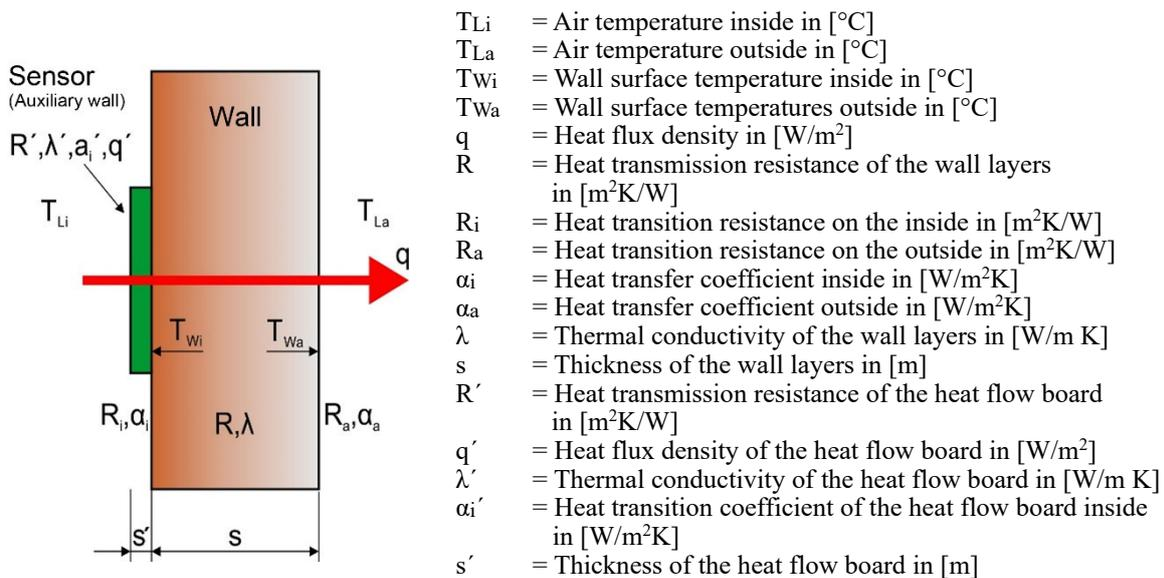

Fig. 3.3.1 Wall with attached heat flow plate
5. As little influence as possible of the dependencies listed in figure 3.3.1 such as direct sunlight and humidity (e.g. measurement at night, measurement in dry weather and on dry surfaces).